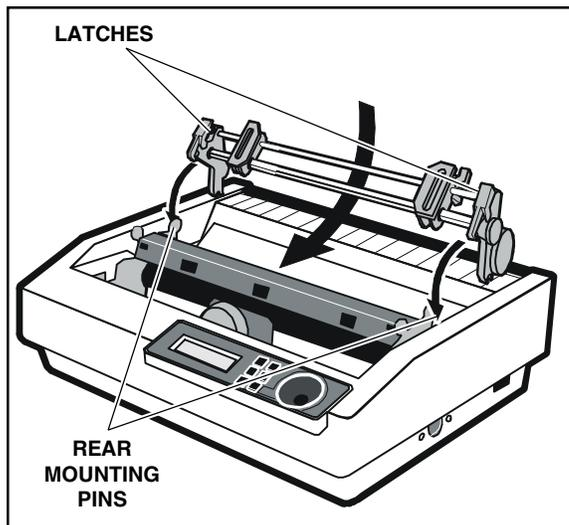

Figure 2-9. Installing the Tractor, Rear Feed
2. Position the forms tractor over the top rear of the printer and lower it into place, as shown in figure 2-9. The forms tractor will locate and engage onto two mounting pins down inside the printer.
3. While pushing down on the forms tractor, rotate the forms tractor towards the front of the printer until the latches snap onto the rear mounting pins, as shown in figure 2-9.